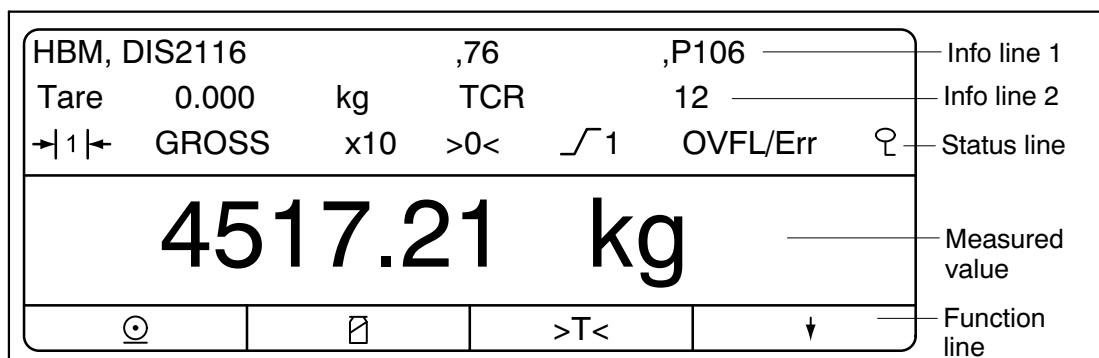

Fig. 6.2: Display
- Keys “F1” ... “F4” = The function of the keys is displayed by the text or the symbols in the function line (Fig. 6.2) in the display